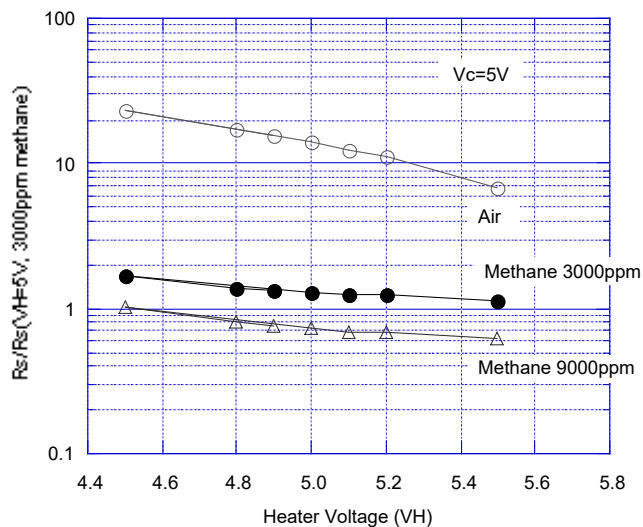

Fig. 8 - Heater voltage dependency ($V_c=5.0$)
Figure 8 shows the change in the sensor resistance ratio according to variations in heater voltage (VH).